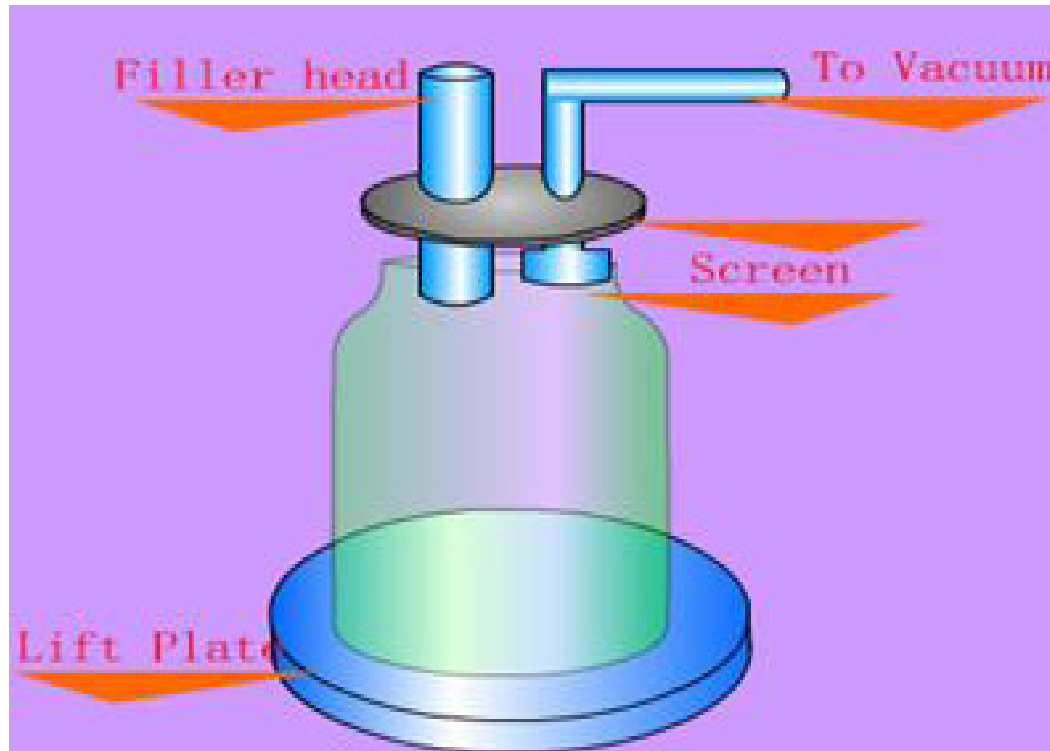

Figure 20.26 Vacuum fillers for dry products
- Similar to the fill-to-a-level operations used with liquid products (Figure 20.26).